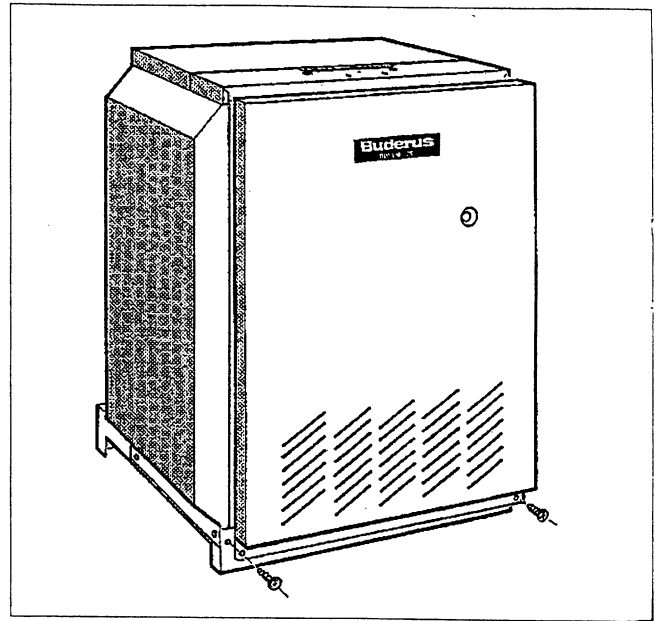

Fig.1
1. Remove Control Access Panel from the boiler, fig. 1